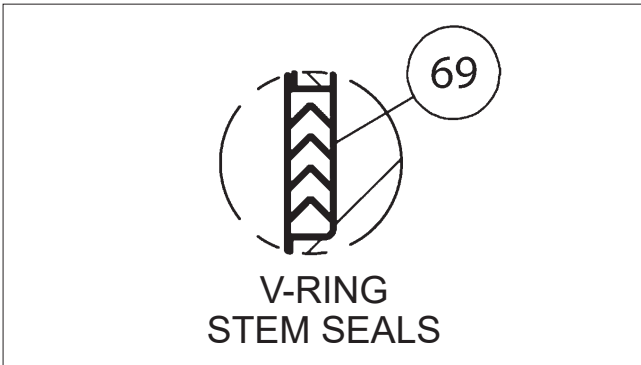
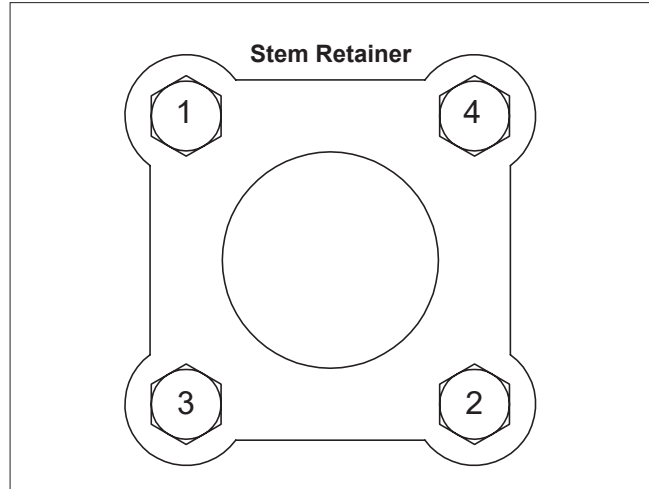

Figure 7 Stem Seal Orientation
Figure 8 Bolt Tightening Sequence
14. Carefully lower the subassembly into the body and guide the trunnion plates for proper seating. When seated, place the second trunnion ring (35) over the trunnion plate machined diameters.
15. Slide stem bearing (8) over top of the stem (4) and down to the stem shoulder. Place secondary stem seal (7) over stem and down on top of the stem bearing (8).
16. Slide stem retainer (30) over the stem and down on top the secondary stem seal (7).
17. Slide the upper stem seal set (32) over the stem and down into the stem retainer. ("V" shape of the stem seals must point away from the ball, see **Figure 7**).
18. Slide compression ring (21) over stem and down to upper stem seal set (32) in the stem retainer. Add spring washers (9) and indicator plate (12) as applicable.
19. Place stem nut (15), with the side marked "top" facing away from stem retainer (30), over stem and thread down until contact is made with the compression ring (21). (Use a wrench on the bottom stem blade to keep the stem from turning.)
21. Place the stem retainer seal (25) in the bonnet groove of the body (1).
23. Align the stem retainer flange holes with the tapped holes in the bonnet. Lubricate the threads of stem retainer cap screws (29) with Never-Seez® or equivalent. Place the four cap screws (and spacer (31) when applicable) through the stem retainer flange and thread into the body. Tighten according to bolt pattern shown in (Figure 8) and to values in (Table 1).